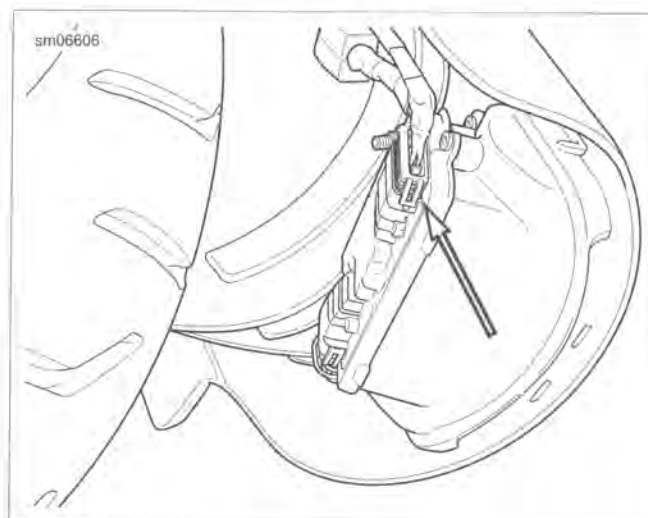
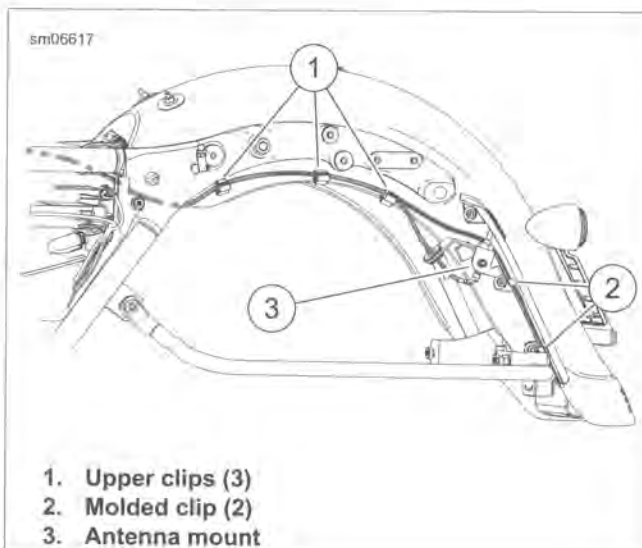

Figure 2-162. Rear Fender Lights Connector (FLHX/S)
Figure 2-163. Rear Fender Lamps Harness and Antenna Cable: FLHX/S
4. **FLHX/S:** See Figure 2-162 and Figure 2-163. Remove shield and disconnect lights harness from rear fascia lamp. Release lights harness from retainers on left fascia and left saddlebag support casting.
- FLHX/S:** See Figure 2-162 and Figure 2-163. Secure harness in retainers on left fascia and left saddlebag support casting. Connect rear fender lights connector and install shield.